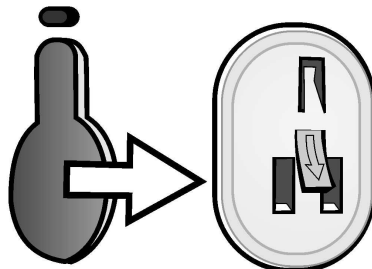

Figure 3
- ❑ Remove the four transportation bolt hole covers on the back of the washer. (1) Push the tab inward with your thumb while (2) sliding the cover in the direction of the two vertical slots in the plastic cover (see Figure 3).